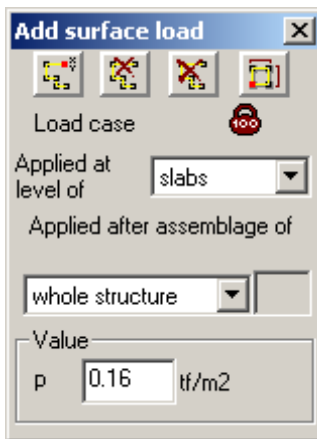

Figure 1.10.1 Add surface load dialog box
- ⇒ In the **Add surface load** dialog box (see Fig.1.10.1), define the following parameter: